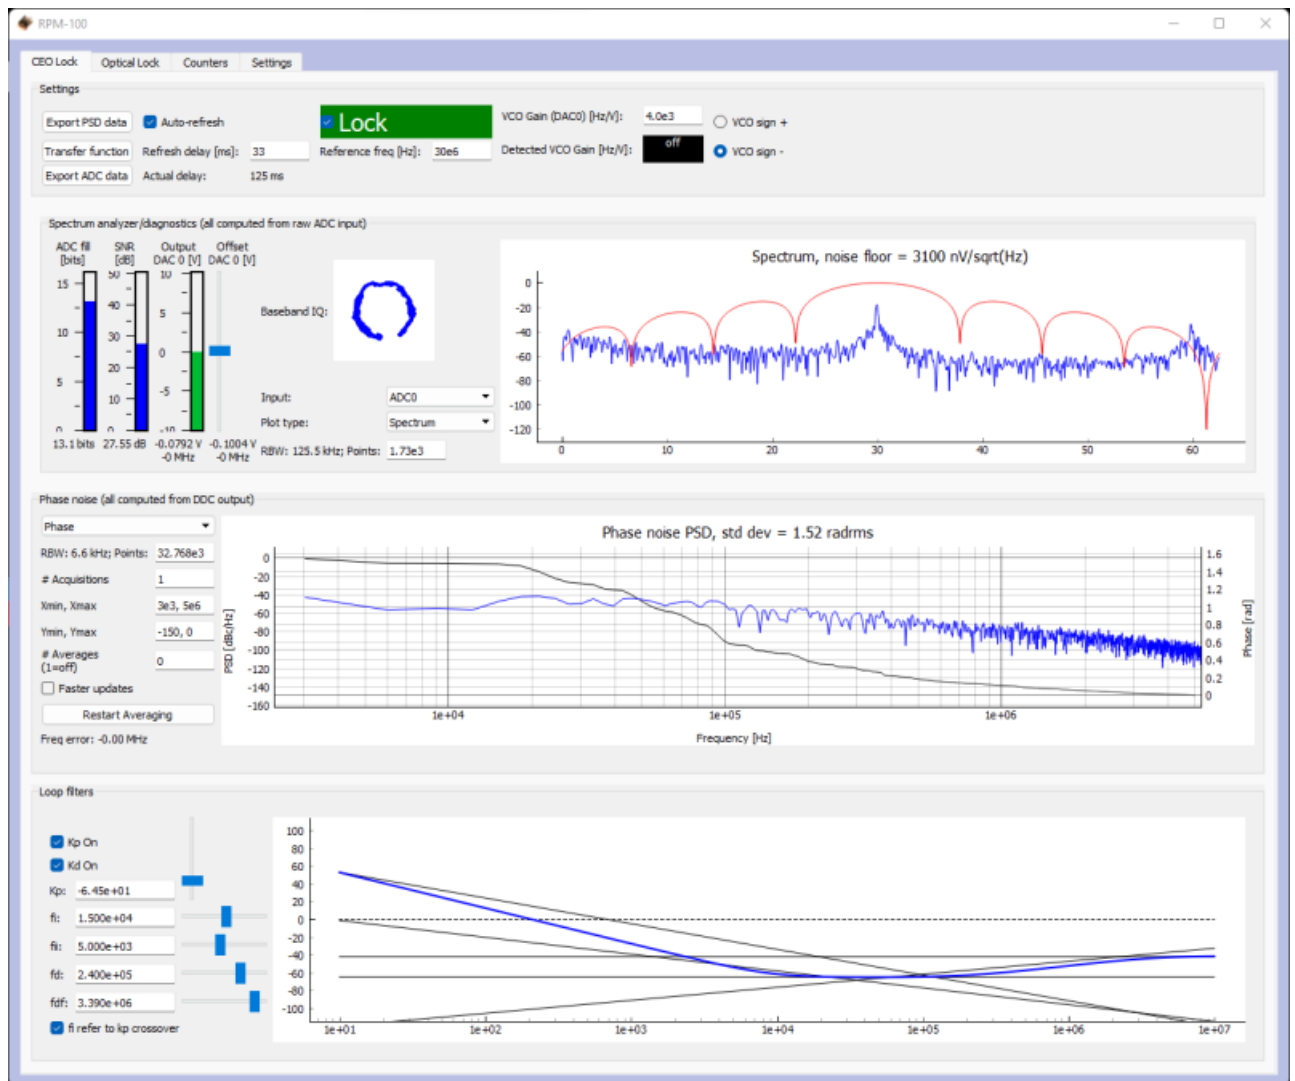

Fig. 6: Locking  $f(\text{CEO})$
- Press the "Lock" button (figure 6, top middle). If the system doesn't lock, change the VCO sign to the opposite polarity (top right) and try again. If the system still won't lock, try lowering the  $K_p$  value (bottom left).